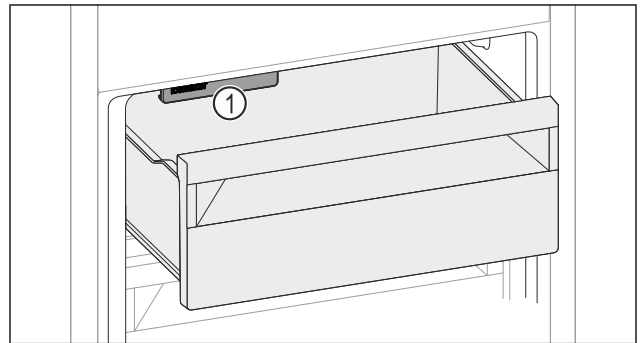

Fig. 150
- ▶ Watch out for the IceMaker Fig. 150 (1).